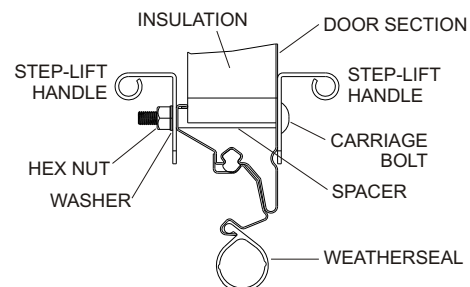

FIGURE 14 - ASSEMBLED VIEW
1. Drill two (2) 1/4" diameter holes through the door using holes in step-lift handle as a guide.
2. Drill two (2) 3/8" diameter holes through inside of door only using 1/4" diameter holes as a pilot.
5. Secure handles to door with lockwashers and nuts. (See Figure 14 for finished product)